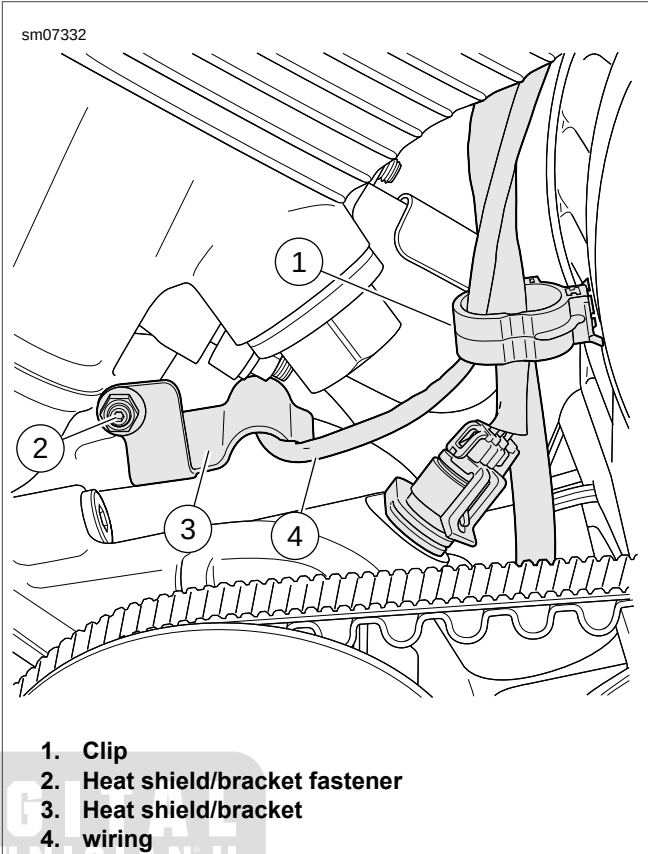

Figure 4-15. Rear Oxygen Sensor
4. See Figure 4-15. Remove oxygen sensor heat shield/bracket (3) located behind rear cylinder head.
- b. **Rear:** See Figure 4-15. Route wiring (4) under heat shield/bracket (2) location and through clip (1).